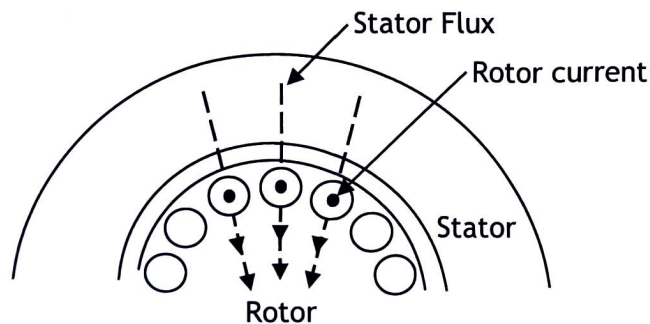

Fig Q8
- (i) the current in each section of the transformer phases; (4)
- (ii) the voltage across each section of the transformer phases; (3)
- (iii) the motor line voltage. (1)
7. (a) With the aid of a labelled cross-sectional sketch, describe the construction of a four pole salient rotor for a synchronous generator. (6)
- (b) A three-phase, star connected, 500 kVA, 440 V generator has negligible stator winding resistance and synchronous reactance of $0.2 \Omega/\text{phase}$. The generator load demands full-load current at 0.8 power factor lag. (4)
- (i) Sketch a labelled phasor diagram to show the relationship between the generated e.m.f., the terminal voltage and the load current. (6)
- (ii) Calculate the voltage regulation. (6)
8. (a) Referring to Fig Q8, which shows the cage rotor for a three-phase, 6 pole, 60 Hz induction motor:
- (i) explain how torque is produced; (5)
- (ii) state the direction of rotation of the rotor; (1)
- (iii) explain why the rotor does not rotate at synchronous speed. (2)
- (b) Sketch and label a torque/speed characteristic for the motor, and indicate EACH of the following: (5)
- (c) Calculate the rotor speed if the slip is 4%. (3)